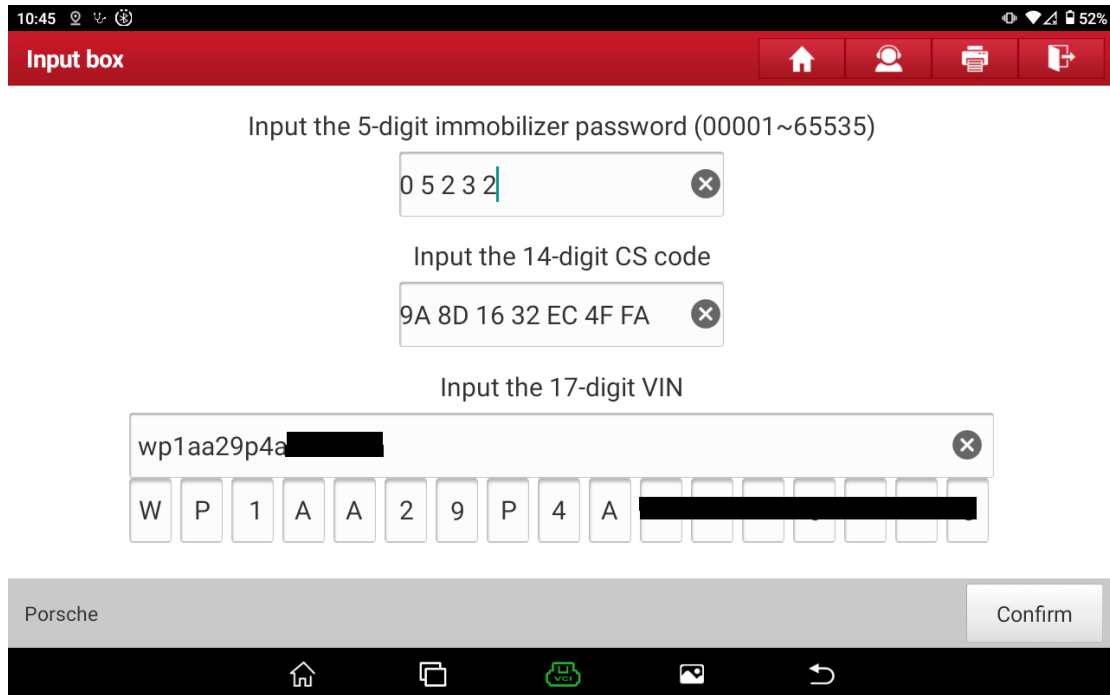

Figure 4 Manually input immobilizer data
- Choose [Manually input immobilizer data], as shown in Figure 4.